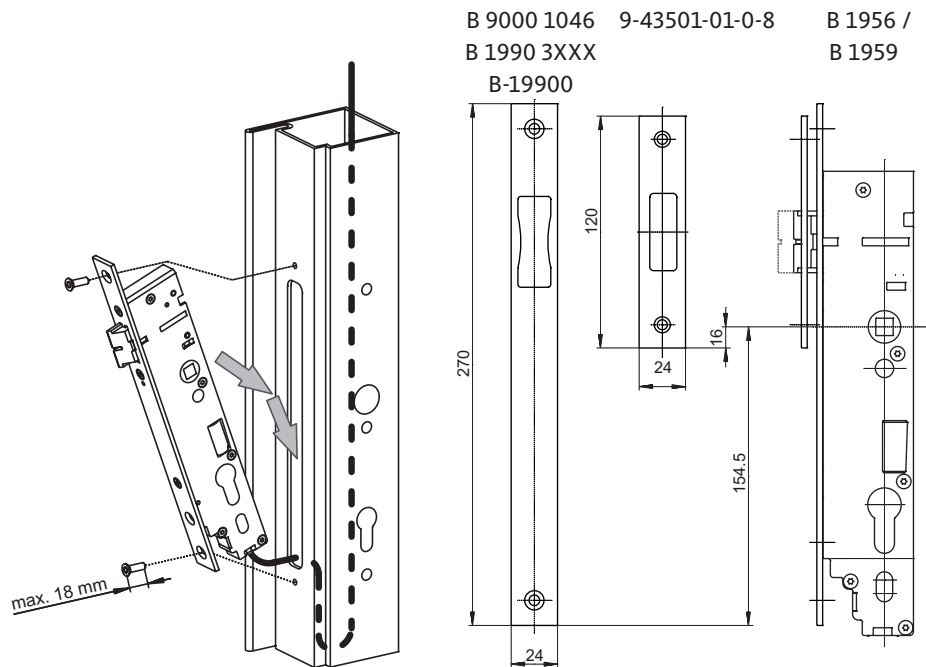

Fig. 4: installation
- Introduce the lock at an angle from above into the lock recess. In doing so feed the cable into the profile (see fig. 4).